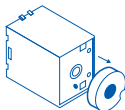

**Figure 12 Work sequence diagram**
3.2 Wiring diagram: see Figure 5~Figure 11, work sequence diagram: see Figure 12.